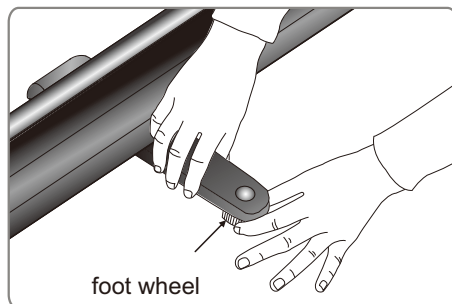

Figure 10
6. Adjust the foot wheel when the ground is not even. To be exact, clockwise rotation raises the foot while counterclockwise rotation lowers the foot, with limits of five circles or within 8mm (Figure 10 - 11).